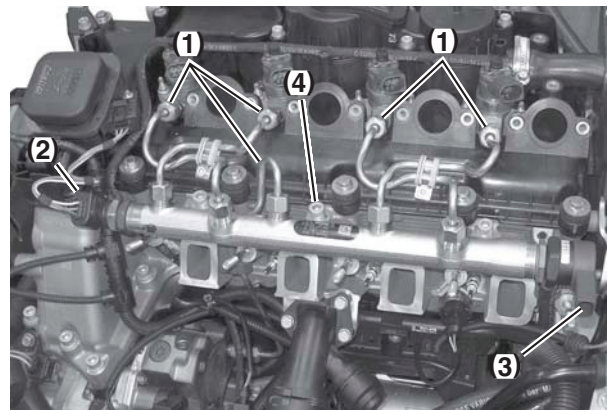

Figure 6-39
- Remove all high-pressure fuel lines (Figure 6-39, (1)). See *Remove and Install High-Pressure Fuel Lines* on page 6-14.
- Disconnect electrical connectors from fuel pressure sensor (Figure 6-39, (2)) and fuel pressure regulator (Figure 6-39, (3)).
- Remove bolts (Figure 6-39, (4)) and remove fuel rail from engine.